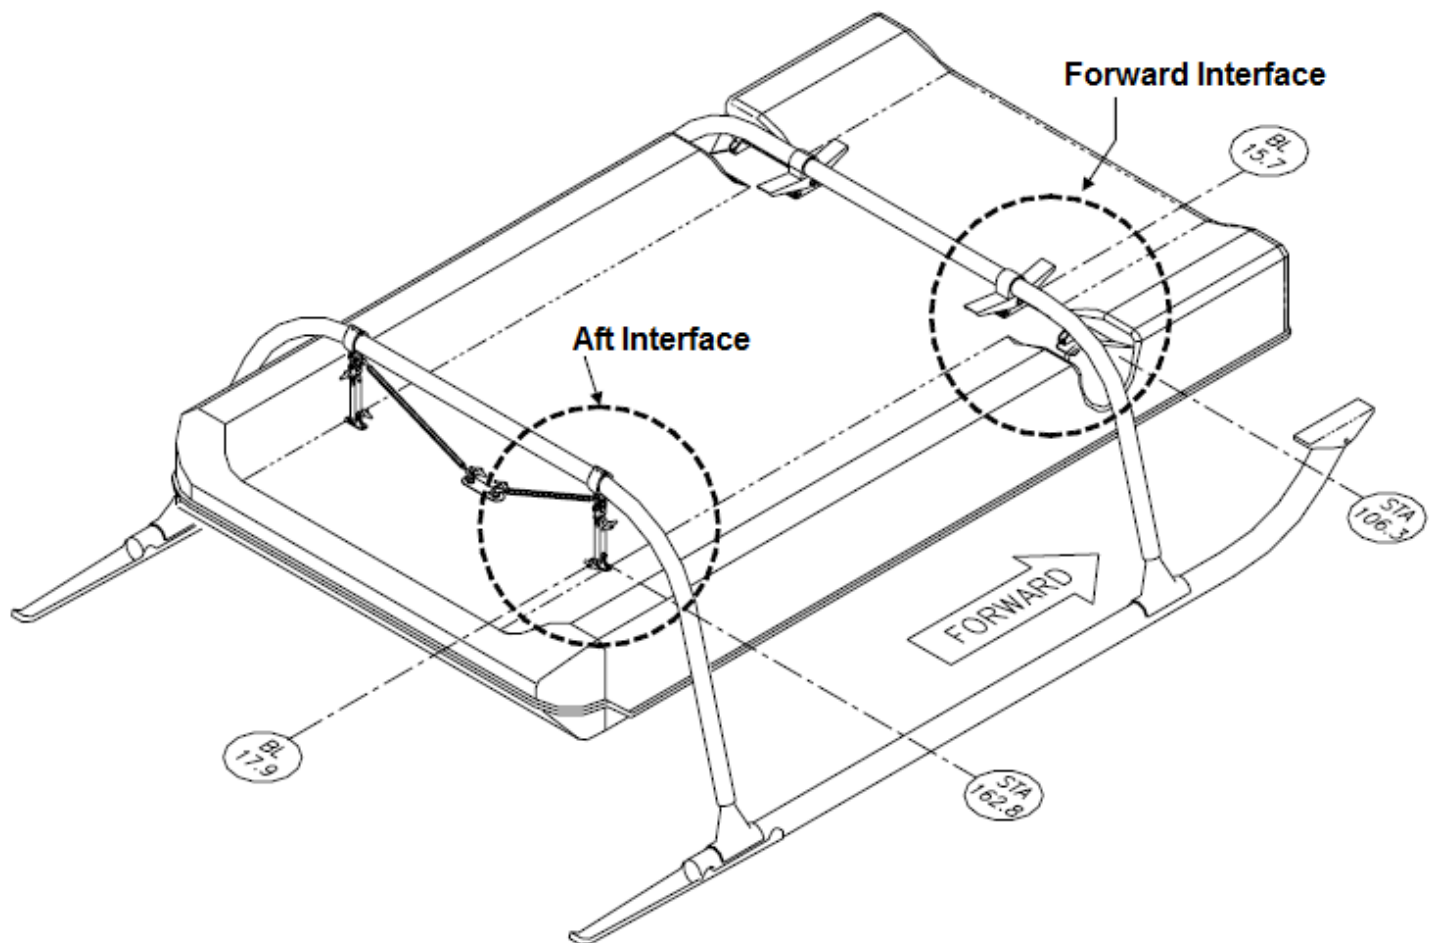

Figure 1: Tank to Rotorcraft Interface (Typical)
32. Adjust aft support rod turnbuckles so that the clevis ends line up with the eyebolts and the quick release pins can be installed as shown in Figure 1. Ensure thread engagement through witness hole in turnbuckle, both ends. If adjustment cannot be made to assembly in order to have threads visible in witness hole, contact Simplex Manufacturing for resolution.